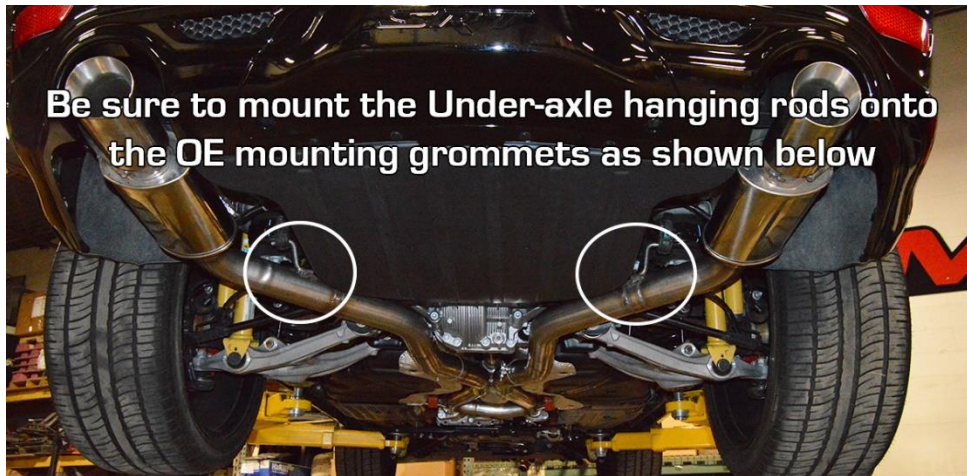

Figure 4
STEP 6: Slide the Under-axle Hanging rods onto the OE mounting grommets. (Fig 4)